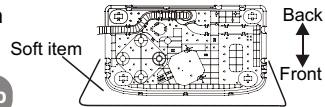

Figure 1
- Figure 1 indicates the leave factory installation position of the drain hose.